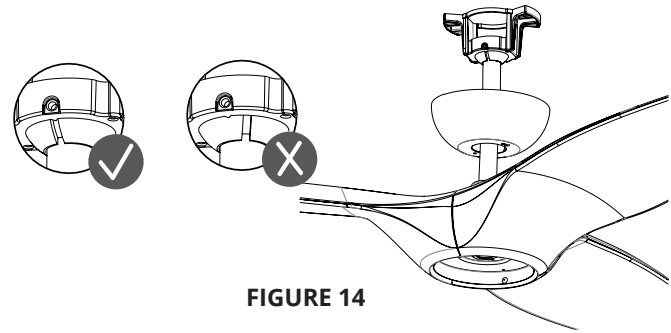

FIGURE 14
1. Carefully lift the fan motor assembly up to the mounting bracket and seat the hanger ball in the mounting bracket socket. Make sure the tab on the mounting bracket socket is properly seated in the groove in the hanger ball. Rotate the socket assembly until the ball drops and locks into the hanger bracket screw (Fig. 14).